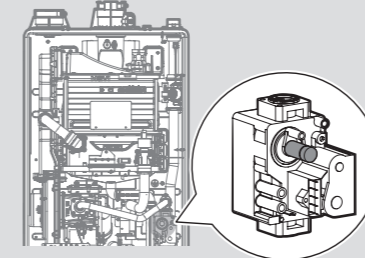

Figure 8. Set Screw Location
- c. Activate multiple zones and set the boiler to operate at 1-stage MIN mode. Measure the CO2 value at low fire. If the CO2 value is not within 0.5% of the value listed in Table 2, the gas valve set screw will need to be adjusted. If adjustment is necessary, locate the set screw as shown in Figure 8. Using a 5/32 in or 4 mm Allen wrench, turn the set screw no more than 1/4 turn clockwise to raise or counterclockwise to lower the CO2 value.